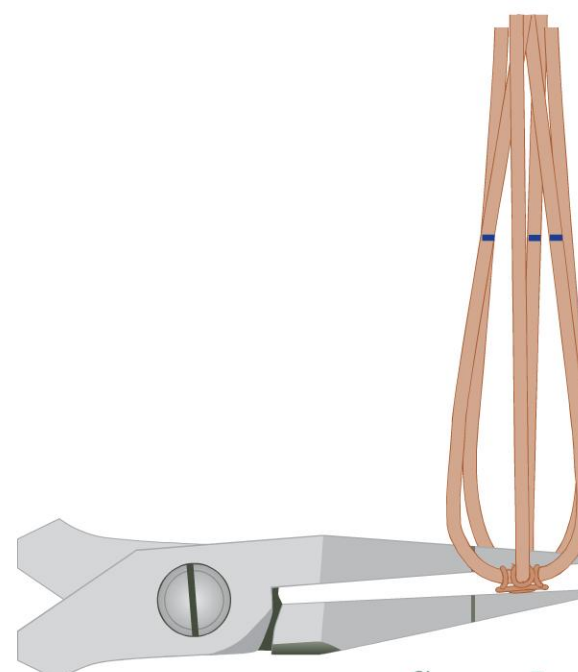

figure 5
- 11 Align the frame wires by holding onto the coiled section with parallel pliers and gently bending the wires with your fingers to center the wires (Figure 5).